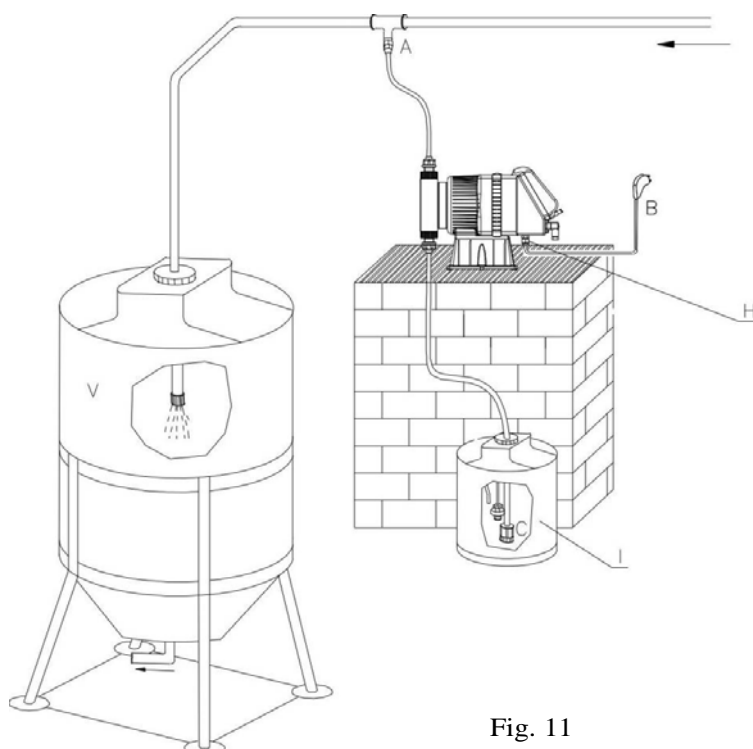

Fig. 11
7.2 - TYPICAL INSTALLATION (Fig. 11)